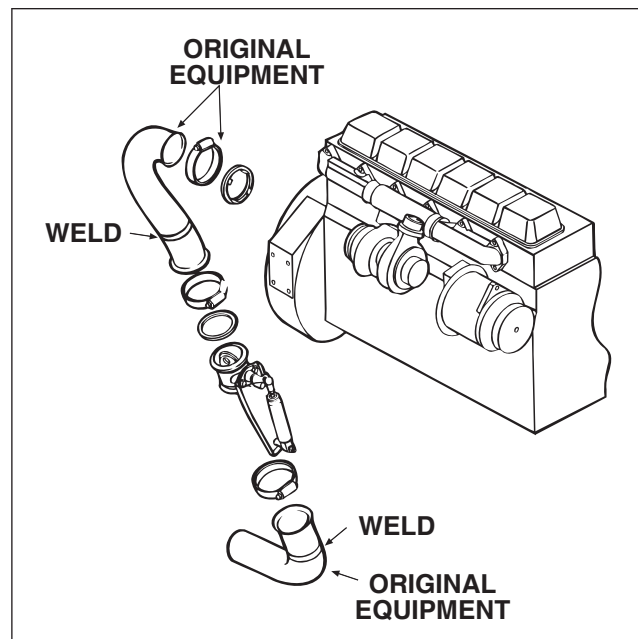

FIG. 3
2. Select a location on the exhaust pipe for the E Brake. Locate the E Brake between the muffler and turbocharger. The E Brake should be as close to the turbocharger as possible while maintaining a minimum distance of 8" from the turbocharger. Where possible, mount the E Brake in a near vertical orientation with the E Brake air cylinder facing the front of the vehicle. This will ensure a flow of air over the cylinder (see Figure 3).